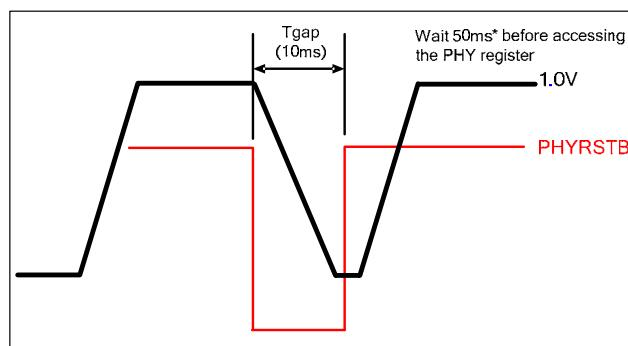

Figure 9. PHY Reset Timing
The RTL8211F(I)/RTL8211FD(I) has a PHYRSTB pin to reset the chip. For a complete PHY reset, this pin must be asserted low for at least 10ms (Tgap in Figure 9) for the internal regulator. Wait for at least 50ms* (for internal circuits settling time) before accessing the PHY register. All registers will return to default values after a hardware reset.